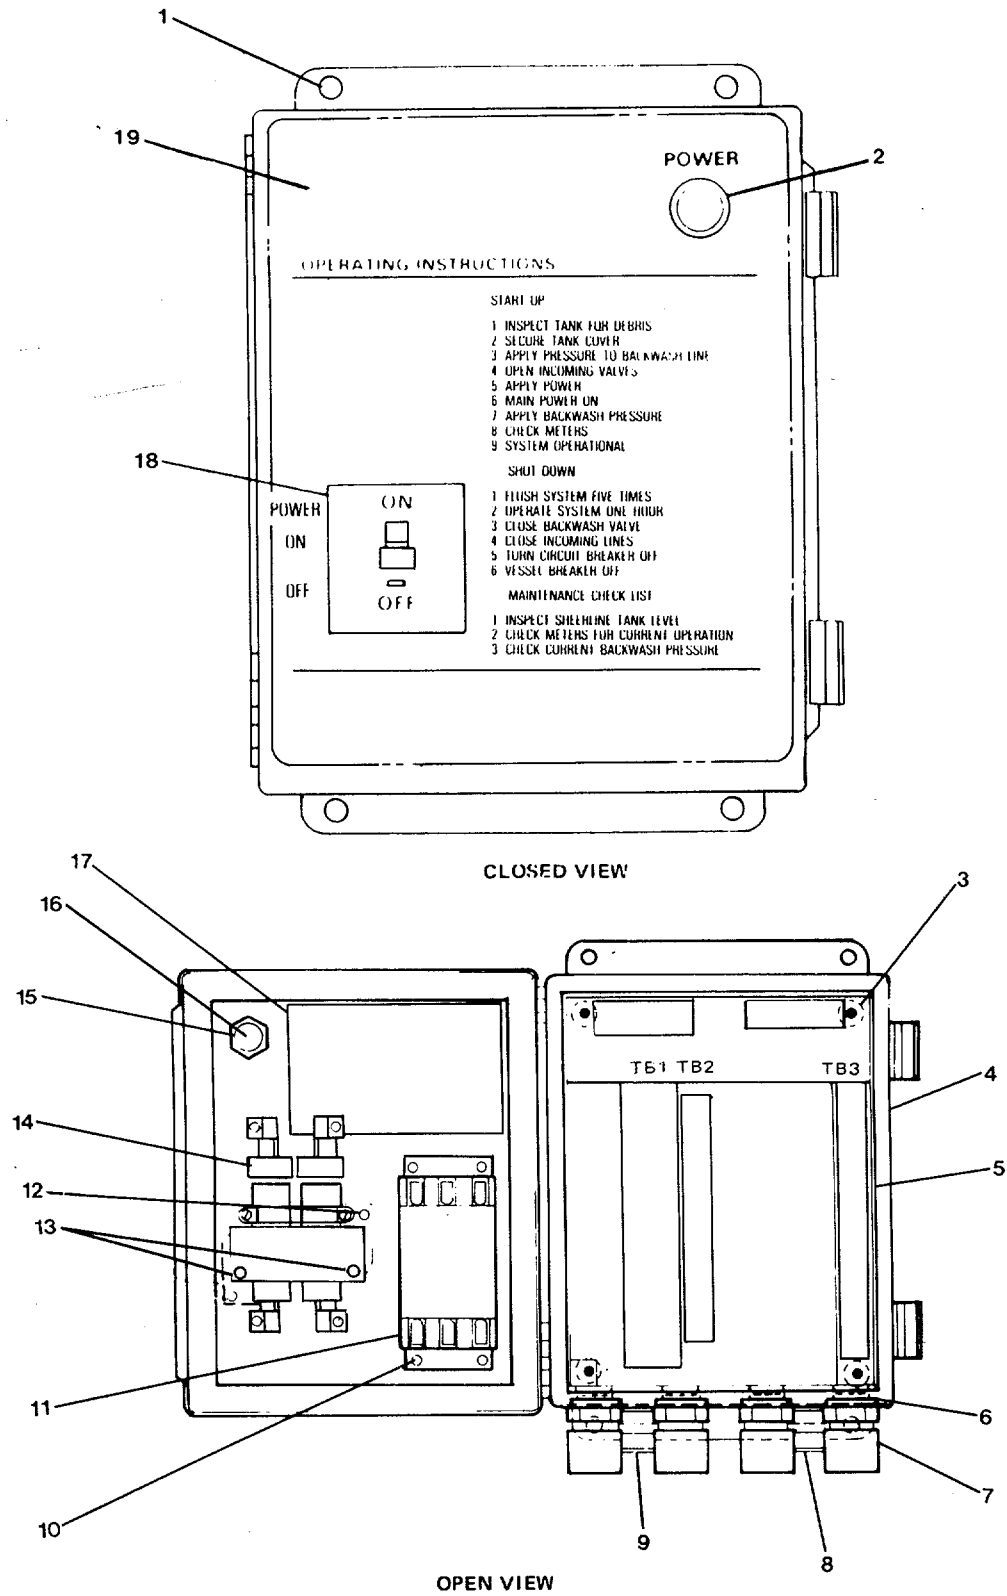

Figure 2-13. Control Module Assembly (Circuit Card Details Excluded).
**2-17. Repair Control Module Assembly. (FIGURE 2-13)**
- a. Remove the circuit card assembly (5, FIGURE 2-13) as follows:
- (1) Open the control module assembly door (19, FIGURE 2-13) to reveal the circuit card (5) and wiring connection. See FIGURE 2-14 for printed circuit card details.
- (3) Remove the screw (3, FIGURE 2-13) in each corner that mounts the circuit card and to the panel enclosure.
- (4) Remove the circuit card from the panel enclosure (4, FIGURE 2-13).
- (5) If only the circuit card is being replaced, go to step (d) of the following replacement procedure.
- b. Remove the circuit breaker (11, FIGURE 2-13) as follows:
A front view of breaker switch is shown in (18) FIGURE 2-13.
- (1) Open the control module door to reveal the circuit breaker (11, FIGURE 2-13) on the back side of the door.
- (2) Tag, disconnect, and mark location of all wires connected to each end of the circuit breaker.
- (3) Remove the mounting nuts (10, FIGURE 2-13) and remove the breaker.
- (4) If only the circuit breaker is being replaced, go to step (c) of the following replacement procedure.
c. Remove the power relay (14, FIGURE 2-13) as follows:
- (1) Open the control module door to reveal the power relay (14, FIGURE 2-13).
- (2) Tag, disconnect, and mark location of all wires to the relay.
- (3) Remove the two mounting nuts (12, FIGURE 2-13) and remove the relay.
- (4) If only the power relay is being replaced, go to step (b) of the following replacement procedure.
d. Remove the POWER ON lens and light (2, FIGURE 2-13) as follows:
- (1) Remove the hex retaining nut (15, FIGURE 2-13) located on the back side of the module door.
- (2) Remove the lens from the front side of the door. Remove the lampholder and bulb from the back side of the door.
- (3) Remove the lamp (bulb) from the holder (16, FIGURE 2-13).
- (4) To replace the lampholder tag and disconnect the wire attached to it.
- (5) To replace the lens, lamp, or Lampholder go to step (a) of the replacement procedure.
(1) Open the control module (junction box) door (19, FIGURE 2-13).
- (2) Disconnect the red and the black chlorinating solenoid wires, from the bottom corner terminals (13, FIGURE 2-13) of the power relay (14) mounted to the back side of the door. Tag with location of wires.
- (3) Remove the red and black solenoid wires that were disconnected above from the polyethylene spiral wrapping that harnesses the wiring to the door mounted components.
- (7) Disconnect the 10 cable clamp connectors (7, 8, 9, FIGURE 2-13). Slip each set of wires through and free of the lockouts (6).
- (9) Close the door to the assembly and remove the four mounting screws (1, FIGURE 2-13). Remove the control module assembly.
A circuit diagram is contained on the information plate (17, FIGURE 2-13).
- (1) Replace a new lamp in the lampholder (16, FIGURE 2-13).